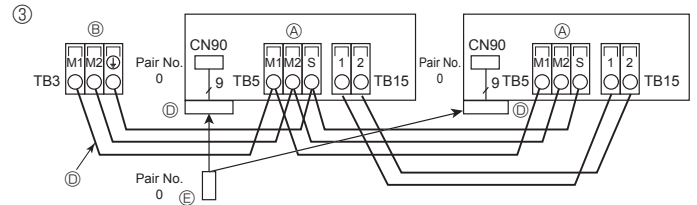

Fig. 6-5
- ③ Wireless remote controller (When installing wireless signal receiver) (Fig. 6-5)